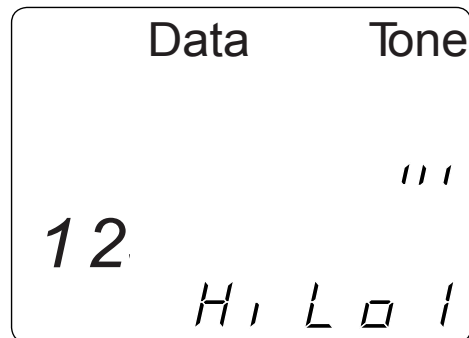

Figure 11. Tone Mode with Data Cable Selected and Hi-Lo1 cadence
5. Press the cable type button again to select different combinations of pins to carry the tone signal. Each press of the cable type button steps you through the cable's wire pairs. The selected pin pair appears in the Wire Map. Figure 11 shows pin pairs 1 and 2 selected for testing a data cable. The following appears in the LCD display screen: